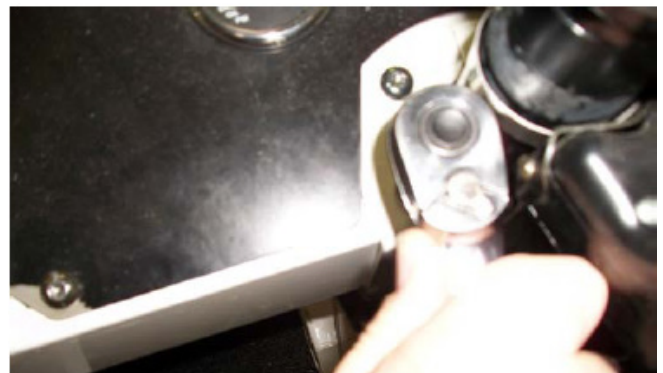

Figure 10
15. Remove the (4) upper bolts securing the steering column to the dash, and discard the bolts (See Figure 10).
20. Install the U-bolt (7381) and (2) U-bolt locknuts (GE286231BL01), and tighten the locknuts to 22 lb.-ft. (30 Nm) of torque (See Figure 10).
21. Install the (4) upper steering column mounting bolts (9X2045) and tighten to 132 lbs. – in. (15 Nm) of torque.